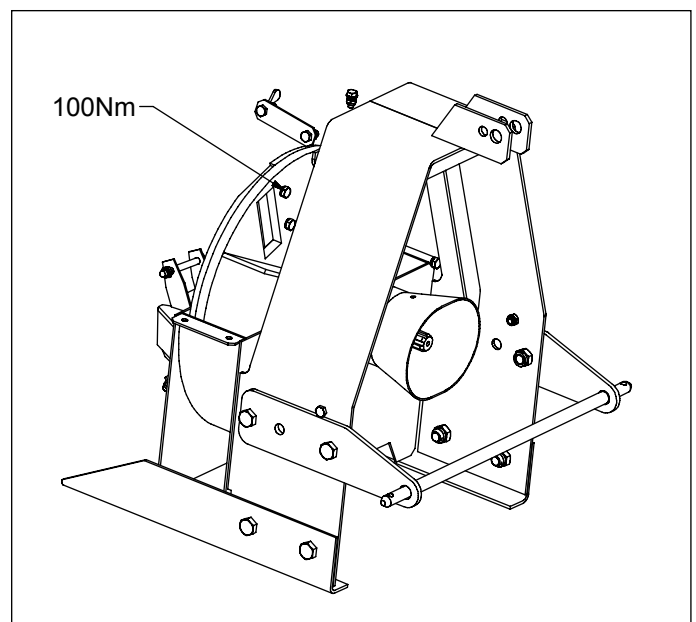

Fig. 12. Removing the knife fastening bolts
1. Remove the knife fastening bolts (M12). Turn the wrench in such a way that your hands would not hit the knife if the wrench should slip. Fig. 12.